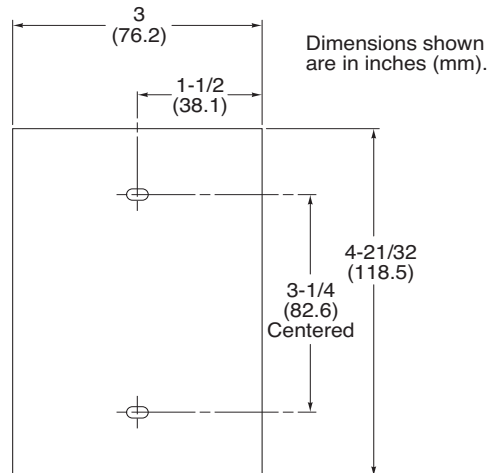
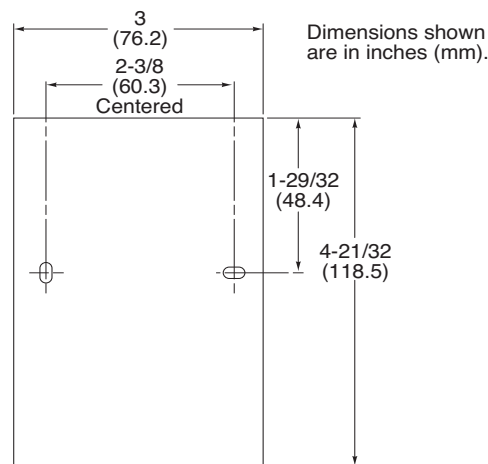

Figure-1 Mounting Dimensions for Direct-wall, 2 x 4 Electrical Box, and Surface Box Mounting.
Figure-2 Mounting Dimensions for 1/4 DIN Electrical Box Mounting.
MicroNet Sensors can be direct-wall, 2 x 4 electrical box, 1/4 DIN electrical box, or surface box mounted. Refer to Figure-1 and Figure-2 for appropriate mounting method dimensions.
1. Use the mounting dimensions shown in Figure-1.
1. Use the mounting dimensions shown in Figure-2.